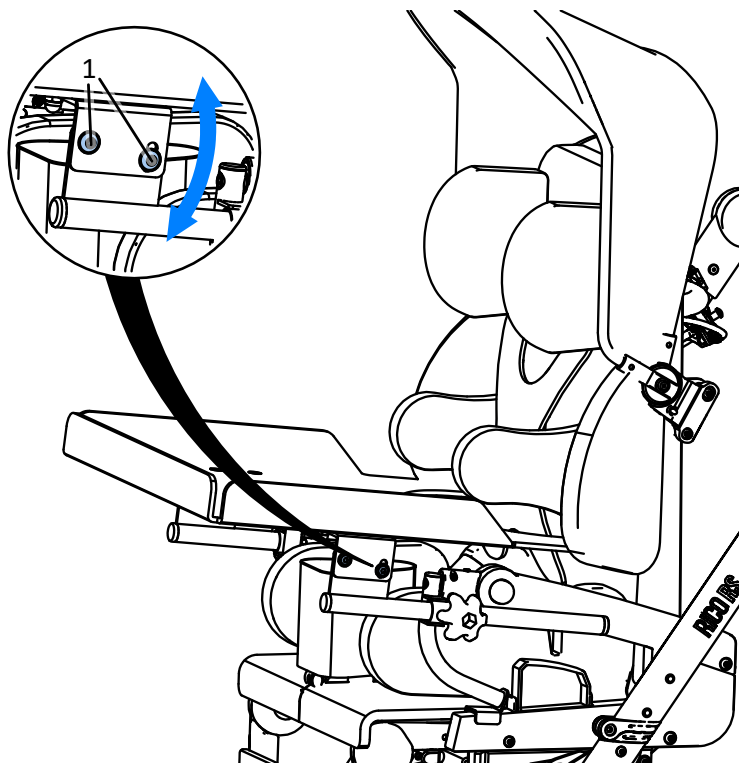

Fig. 33
The angle of inclination of the table top Fig. 33 is adjusted by loosening the two screws (1) located above the table adapters below the table top. After obtaining the desired tilt angle, tighten the screws. There are adjustment screws on both the left and right sides of the tray.